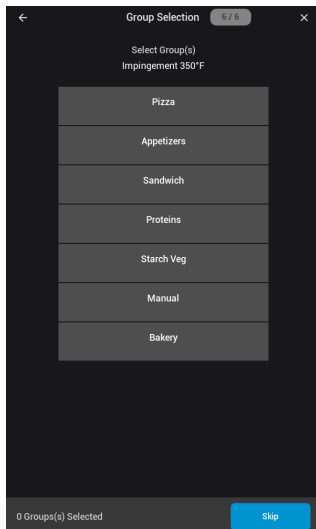

Figure 29: Select Groups to Place Recipe Into
11. Select which group(s) to which the recipe will be added (Figure 29, below).